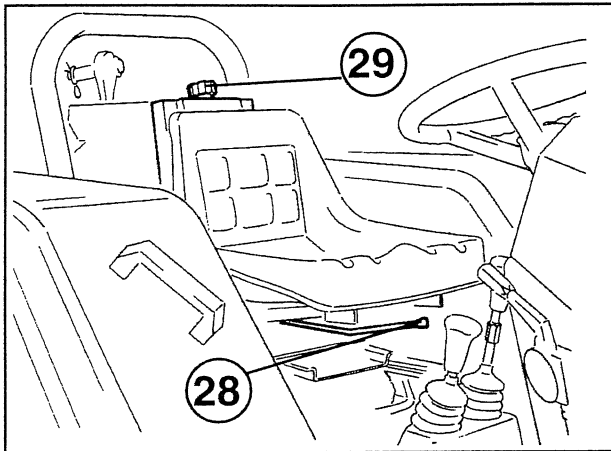

Fig. 10 Standard seat adjustments
(Fig. 10)
29) STANDARD SEAT SUSPENSION ADJUSTMENT LEVER (Fig. 10)